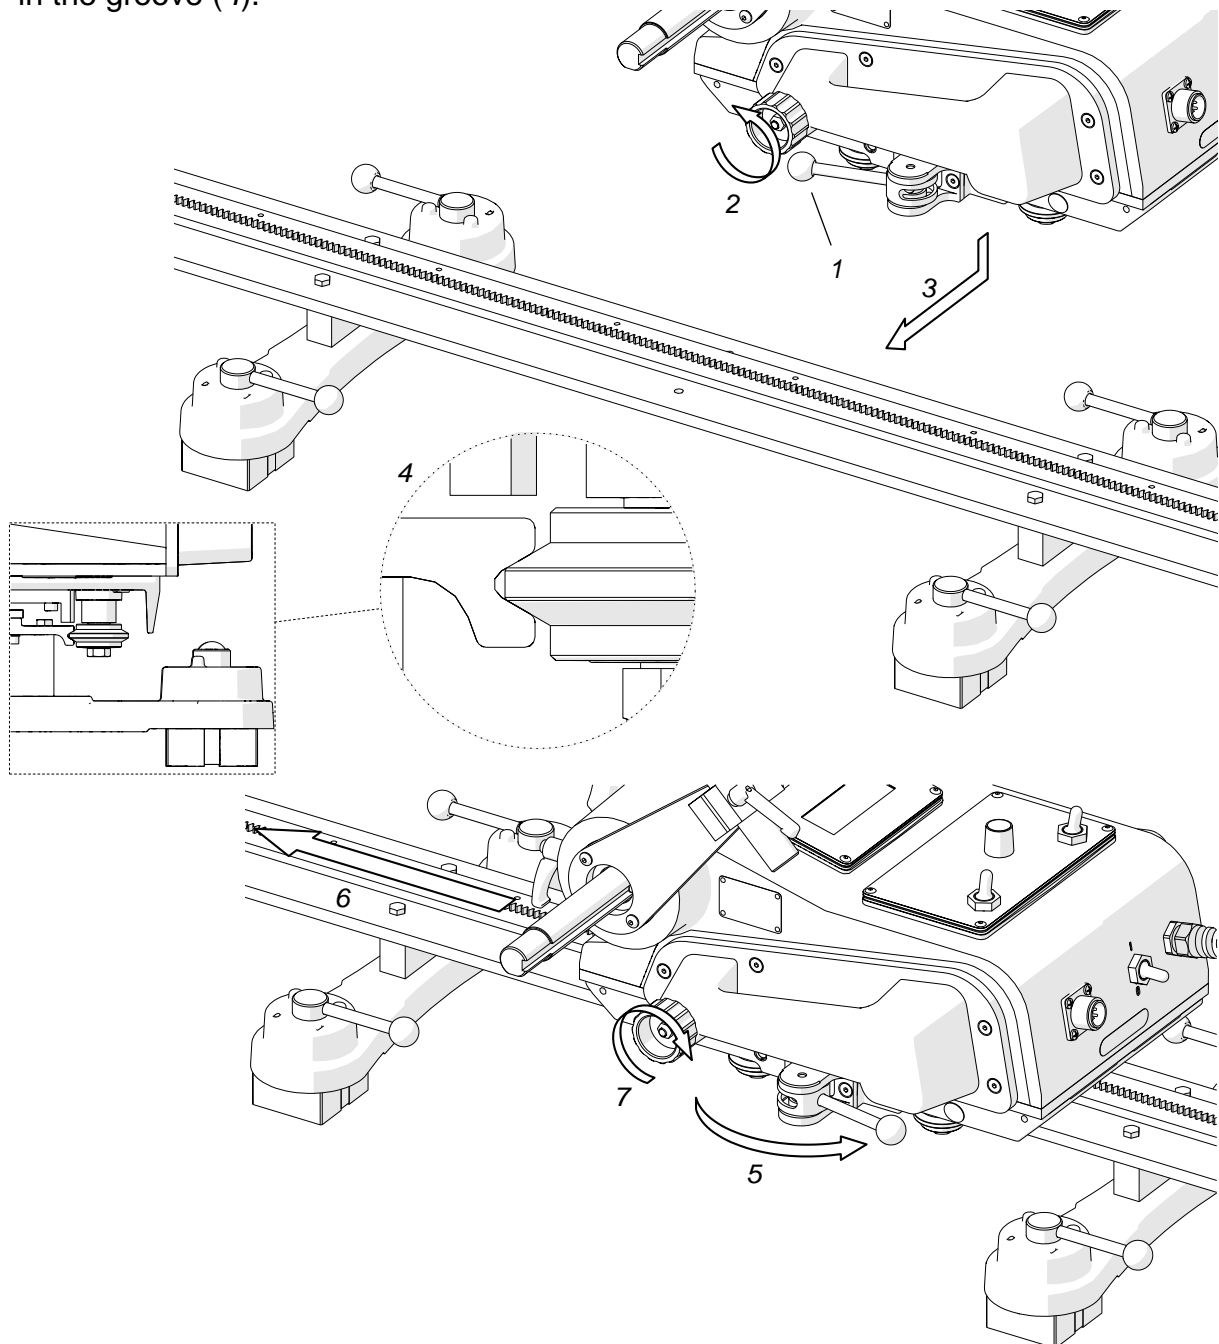

Fig. 6. Positioning the carriage on the track
Set the power switch, arc ignition switch, and travel direction switch to the position 'O'. Next, with the pressing lever in the position OFF (1, Fig. 6) loosen the drive clutch knob fully (2), and then set the carriage onto the track (3) so that the back rollers are placed in the groove (4).